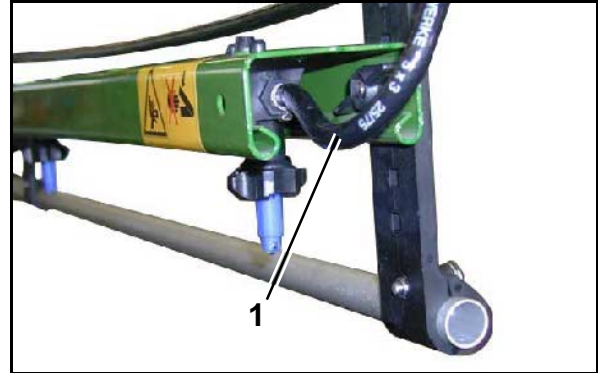

Fig. 166
- allows the permanent liquid circulation in the spray line when the pressure circulation system is switched on. For this every boom part width section is provided with a flushing hose (Fig. 166/1).
- one hose for the flushing connection (Fig. 166/1) per boom part width section.